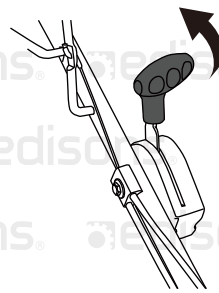

Fig. 14
2. Move the throttle lever **(4)** upward to run position  (middle position of throttle control) (Fig. 14).